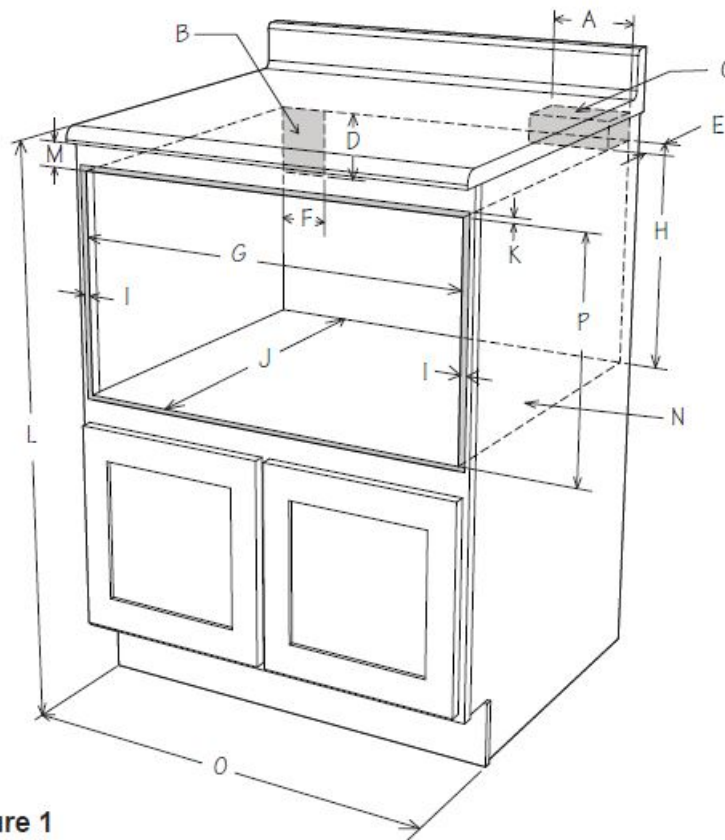
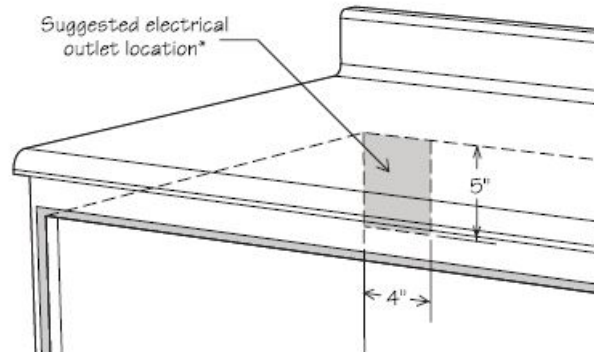

Figure 1
Figure 9
Do not install this appliance in any combustible cabinetry, which is not in accord with the stated clearances and dimensions on pages 2–5. See Figures 1–7.
- Dimensions shown in Figure 1 must be used. Given dimensions provide minimum clearance. Locate electrical outlet in the shaded area in the upper left-hand corner of the cutout. See Figure 9.
Figures 1 and 2 contain many measurements for reference when planning the Sharp Microwave Drawer™ Oven location.
To reduce the risk of tipping of the drawer, the Anti-Tip block must be properly installed and located 14 13/16" above the floor on which the Sharp Microwave Drawer™ Oven will sit. The 6" Anti-Tip block must be provided by the installer. See Figure 1. The Anti-Tip block prevents serious injury that might result from spilled hot liquids. If the Sharp Microwave Drawer™ Oven is ever moved to a different location, the Anti-Tip block must also be moved and installed. When installed to the wall, ensure the screws completely penetrate the drywall and are secured in wood or metal so the block is totally stable. When fastening, ensure the screws do not penetrate electrical wiring or plumbing.